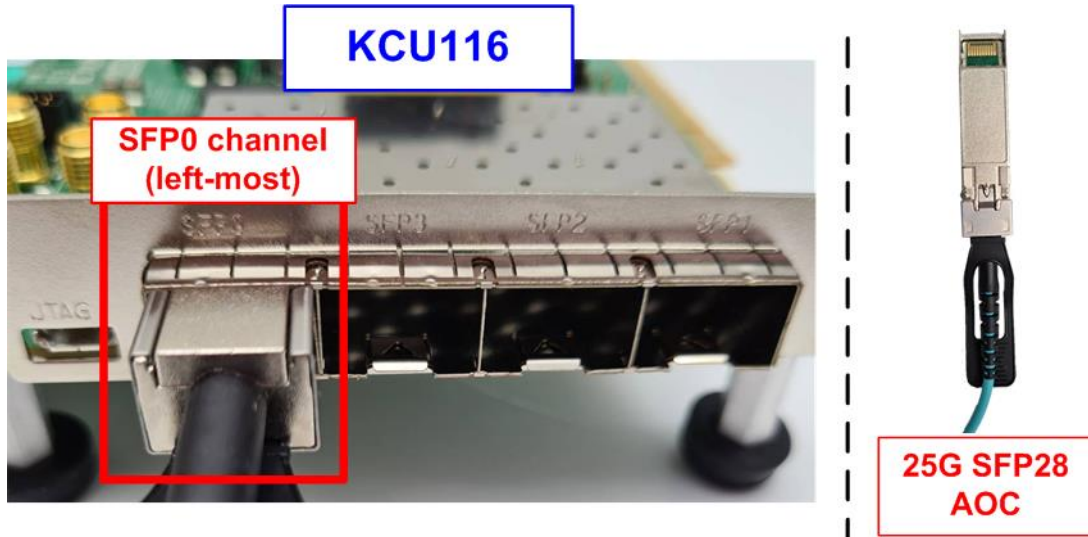

Figure 2-2 25Gb connection on KCU116 board by 25G SFP28 AOC
- a) KCU116: Insert 25G SFP28 AOC cable between FPGA board (on the left-most channel) and 25Gb Ethernet card on Test PC, as shown in Figure 2-2.